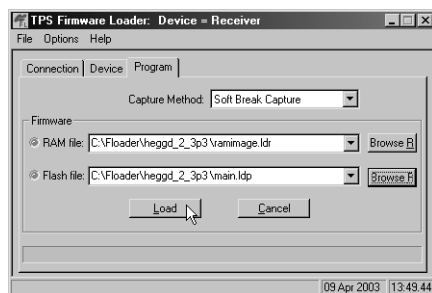

Figure 3-23. Program Tab Settings
6. Click the **Program** tab and set the *Capture Method* to Soft Break Capture (recommended) (Figure 3-23).
7. Browse for and select the receiver board's RAM and Flash files (Figure 3-23).